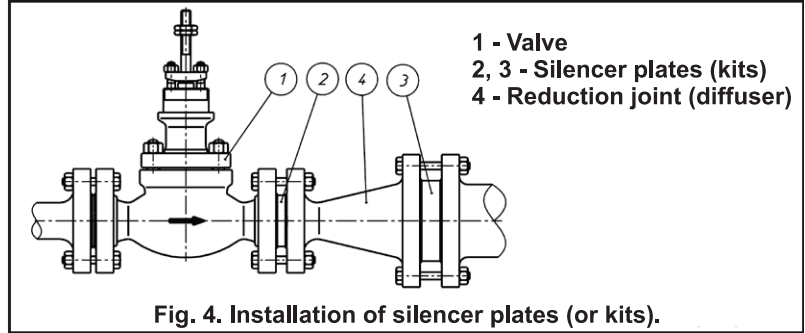

Fig. 4. Installation of silencer plates (or kits).
- reduction joints (diffusers) - (fig.4).